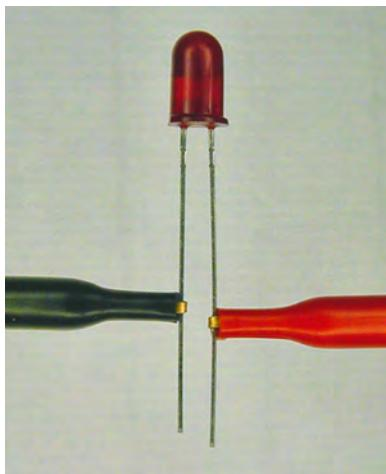

Figure 10-14. LED connected to hook adapter probes for testing
6. Find the cathode lead of the LED. Usually that's the shorter of the two wires, but check for a flat notch at the bottom of the LED lens to be sure. Connect the black probe to the LED's cathode (-) and connect the red probe to the LED's anode (+) (see Figure 10-14). It's a lot easier if you use hook adaptors on the multimeter test probe tips. Don't worry if you connect the LED in reverse. It's not harmful.